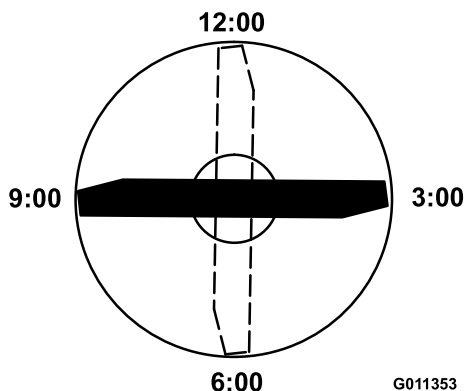

Figure 89
4. Position the cutting edge of the marked end of the blade at 12 o'clock (straight ahead in the direction of mowing) (Figure 89) and measure height from table to cutting edge of blade.
5. Rotate the marked end of the blade to the 3 and 9 o'clock positions (Figure 89) and measure the heights.